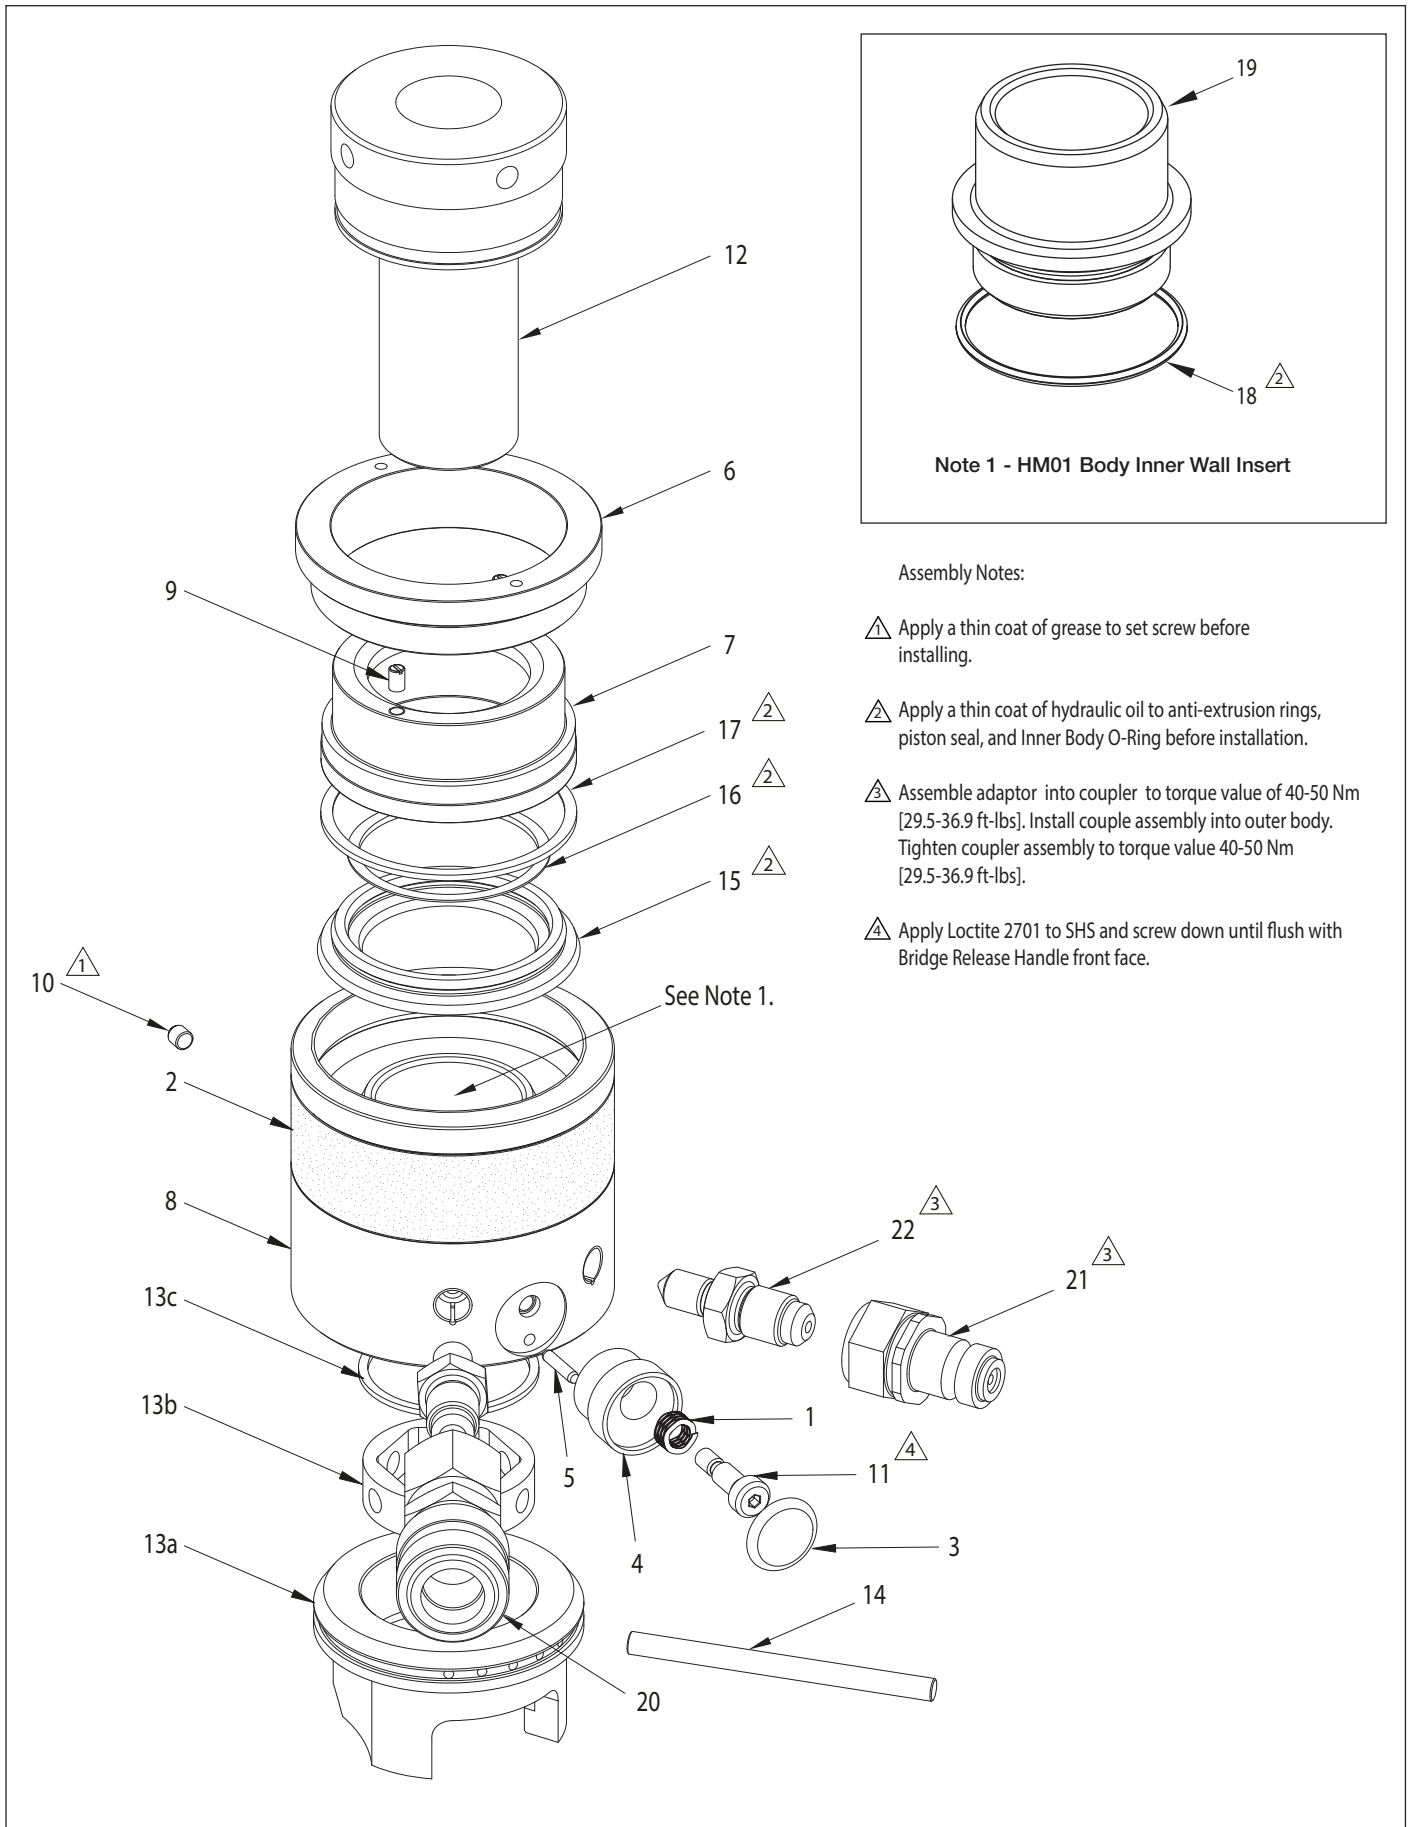

Figure 1, Exploded View, HydraMax® Series Hydraulic Tensioner (Models HM01, HM02, HM03)
**Repair Parts List For Figure 1 – HydraMax® Series Hydraulic Tensioner, Models